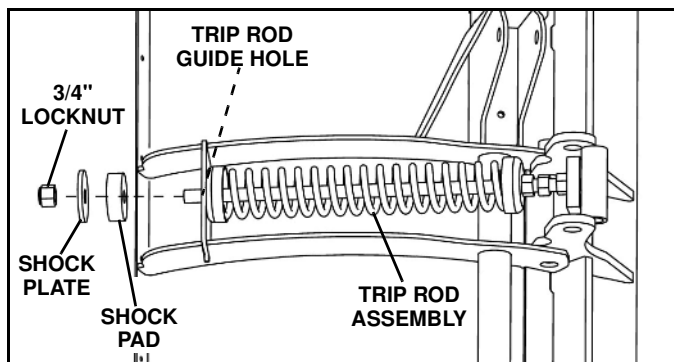

Figure 1-12
8. Slide the trip rod assembly into a trip rod guide hole in the blade. (See Figure 1-12)